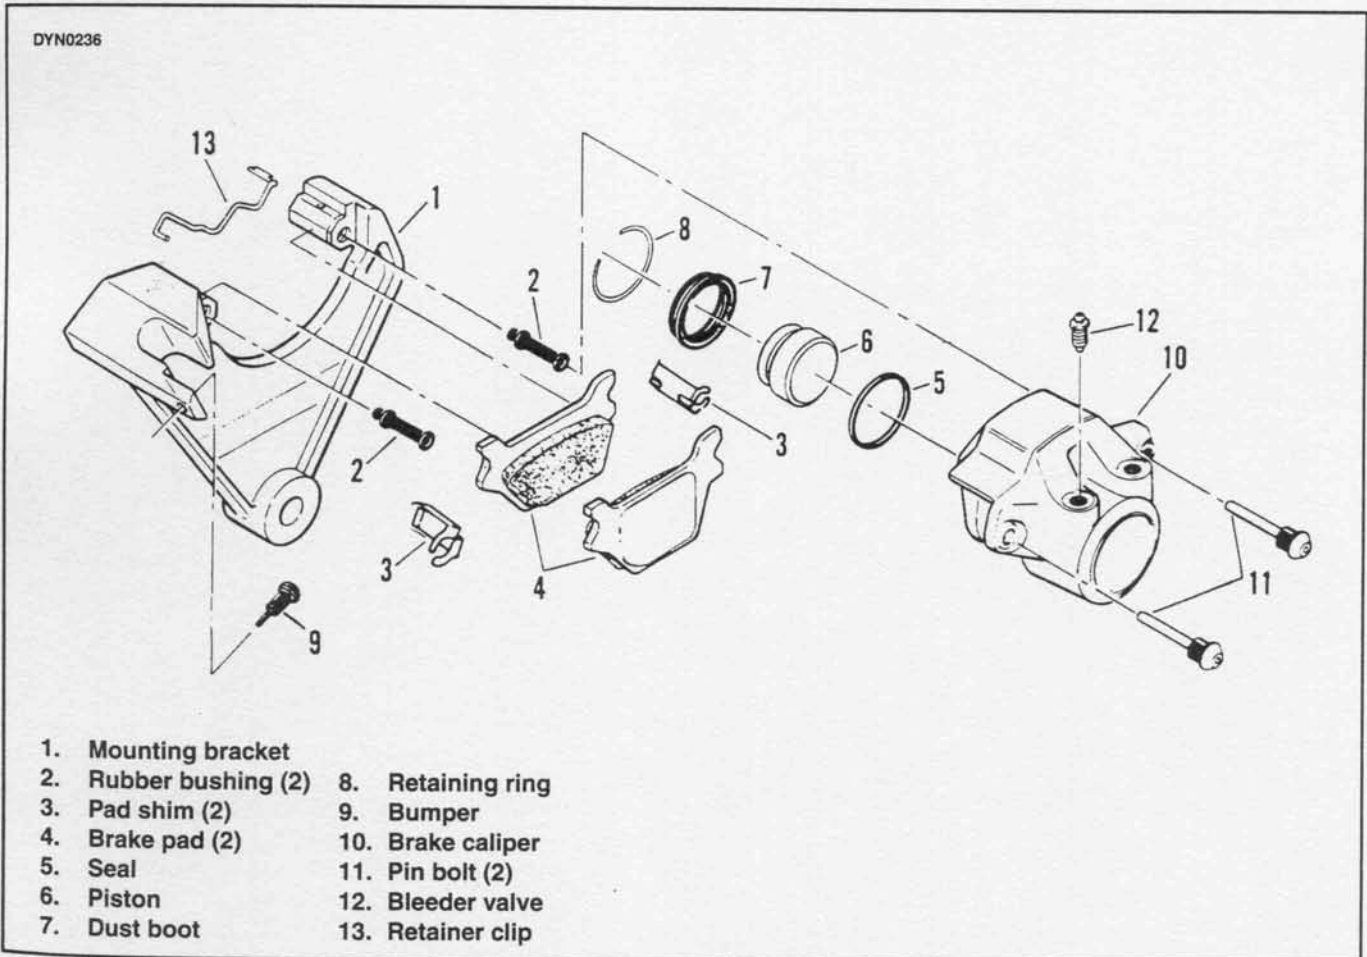

Figure 2-55. Rear Caliper
2. See Figure 2-55. Remove pin bolts (11) and carefully lift caliper (10) off the brake disc and brake pads.
3. Remove retainer clip (13). Slide outside brake pad off mounting bracket. Slide inside caliper off mounting bracket, toward wheel.
4. Remove pad shims (3).
2. See Figure 2-55. Replace any parts that appear worn or damaged. Always replace seal (5) and dust boot (7) if removed from caliper bore. Replace rubber bushing (2) if damaged or worn. Do not hone or bore cylinder.
1. See Figure 2-55. Place pad shims (3) on mounting bracket with the tabs seated in mounting holes.